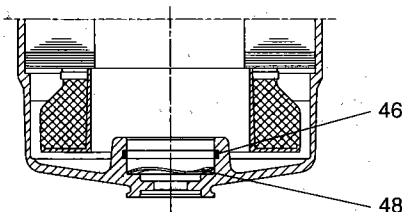

Fig. 1
Press the O-ring, pos. 46, into the recess and fit the corrugated spring, pos. 48, at the bottom of the stator, see fig. 1.